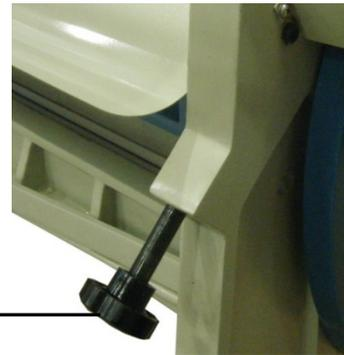

Figure 17-3
7. Remove the idler adjustment bolts and clean the threads. Lubricate with oil and re-install. (fig. 17-3).